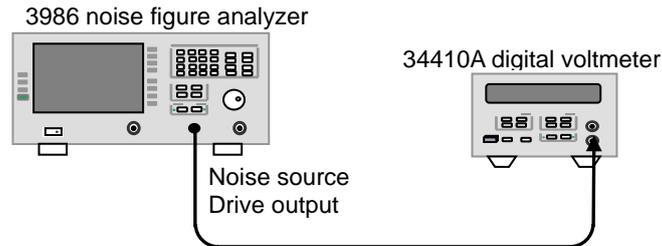

Figure 8.9 Test Block Diagram of Noise Source Drive Voltage
Step 1. Connect the test equipment as shown in Figure 8.9 and warm it up for 30min.